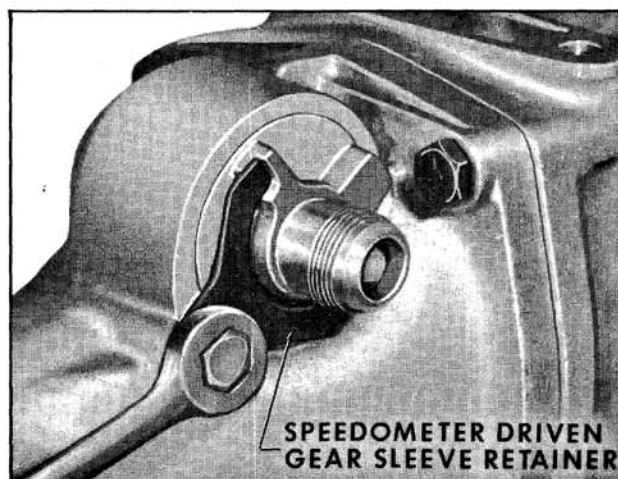

Fig. 6-365 Removing Speedometer Driven Gear Retainer
1. With transmission in horizontal position, remove speedometer driven gear sleeve retainer. (Fig. 6-365)